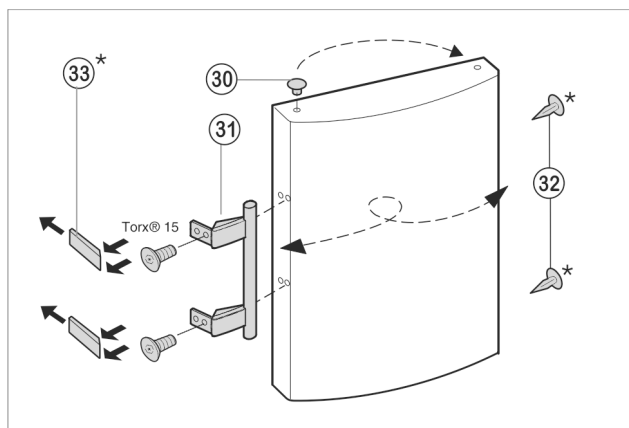

Fig. 10
- Lift the stopper *Fig. 10 (30)* out of the door bearing bush and transfer it.
- Detach door handle *Fig. 10 (31)*, stoppers *Fig. 10 (32)* and pressure plates *Fig. 10 (33)* plates and transfer to the opposite side